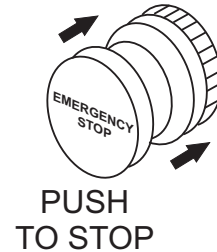

Figure 67. Emergency Stop Button
1. **PUSH** inward the emergency stop button located on the **engine operating panel** (Figure 67) to turn off the generator in the event of an emergency.